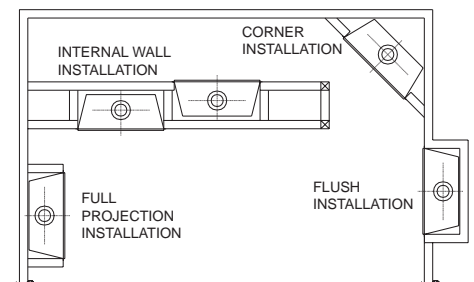

Figure 3- Possible Locations for Installing Appliance
3. A location that avoids the cutting of joists or roof rafters will make installation easier. Figure 3 shows a plan view of a few common locations.